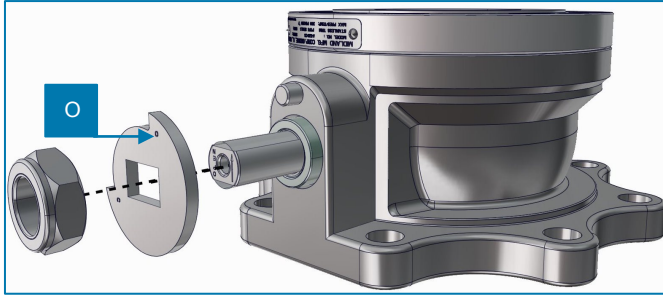
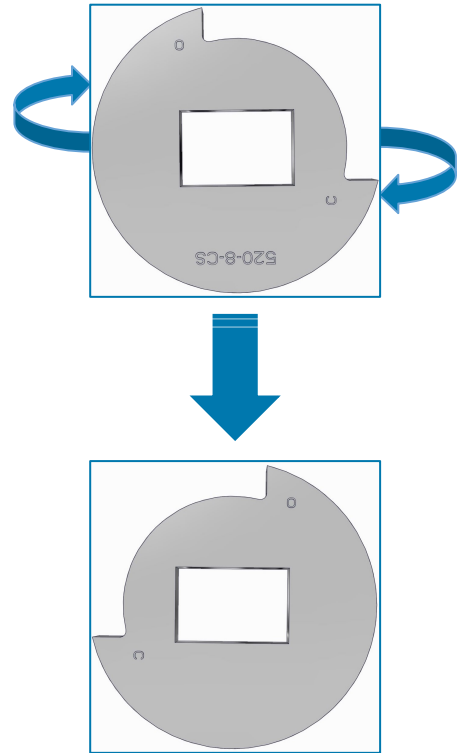

Figure 6 – Installed Reversed Stop Plate
Figure 5 – Stop Plate Reversed
**Step 3:** Once the stop plate is removed, reinstall the stop plate as shown in Figure 6. **Be sure to flip the stop plate so that the part number etching is on the opposite side and not visible; see Figure 5.** In addition, the stop plate must be oriented so that the etched "O" is nearest to the position-limiting pin. (After installation, it will be necessary to view the opposite side of the stop plate to ensure that it has been installed correctly.)